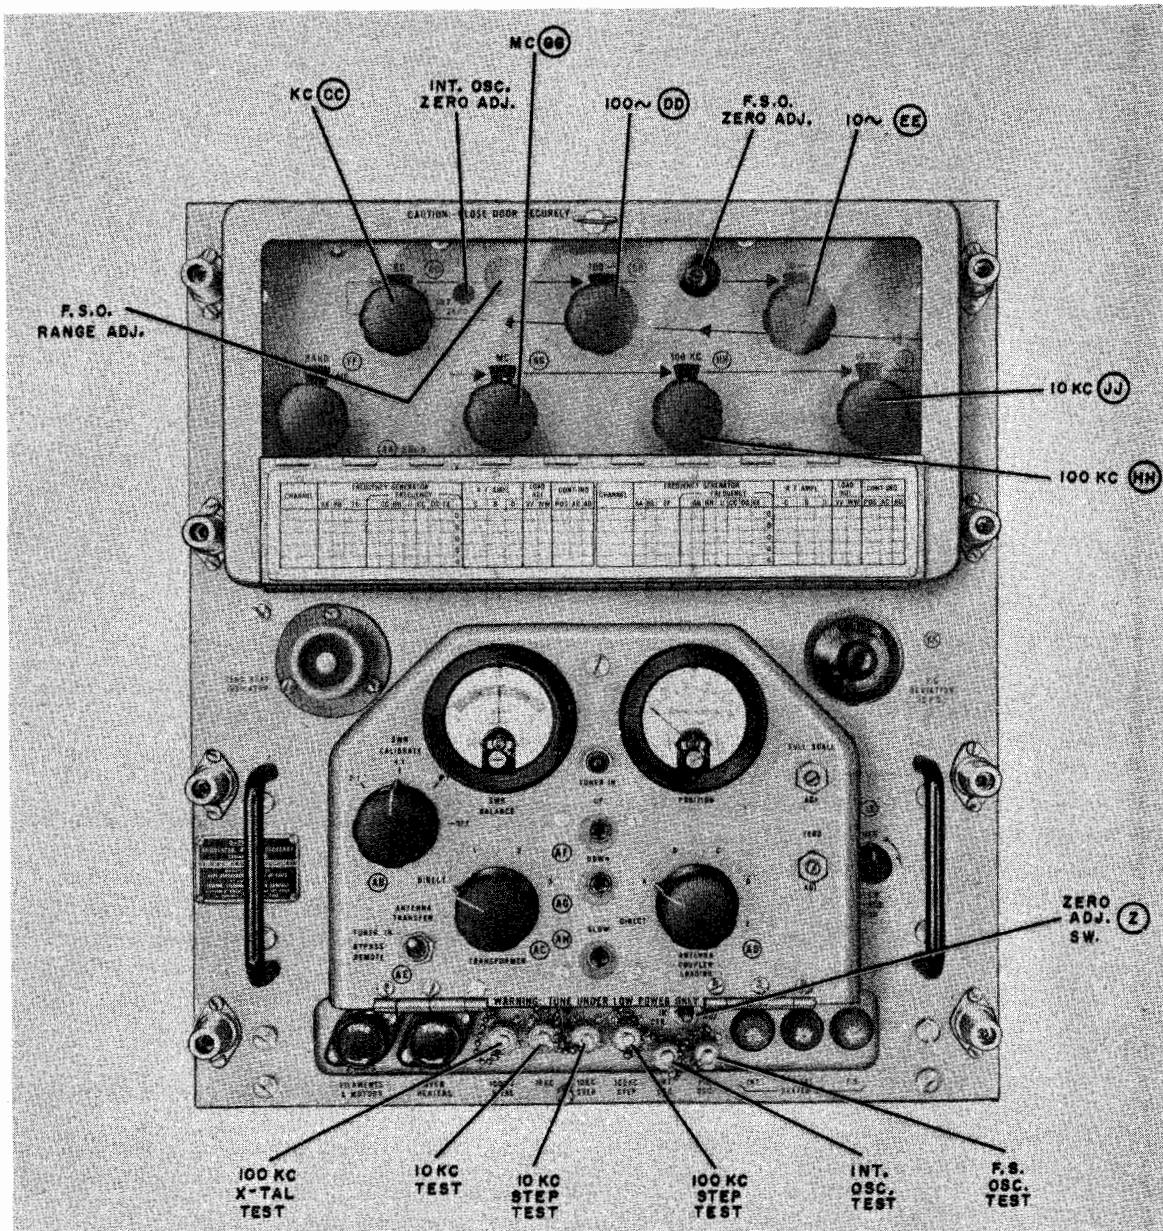

Figure 6-10. RFO, Front Panel Unit Adjustments
| RFO, Front Panel (See figure 6-10.) | 14 | 100 KC X-TAL | 1.00 | | | | |
Step 5. Open the access door on the front of the RFO and adjust the control marked INT. OSC.—ZERO ADJ. to obtain a correct 1:1 Lissajous pattern, if necessary. (See figure 6-10 for location of this control.)
(See figure 6-10.)
(5) UNIT 12.—R-F Oscillator Z-2127 (unit 12) is commonly called the frequency shift oscillator (FSO). For purposes of this section, unit 12 requires one routine check and adjustment—the 100-kc adjustment (see figure 6-10).
- Step 1. Place the 100 KC knob \oplus in its 0 position. (See figure 6-10 for location of 100 KC knob.)
- Step 1. Place 100 KC knob \oplus at 0. (See figure 6-10.)